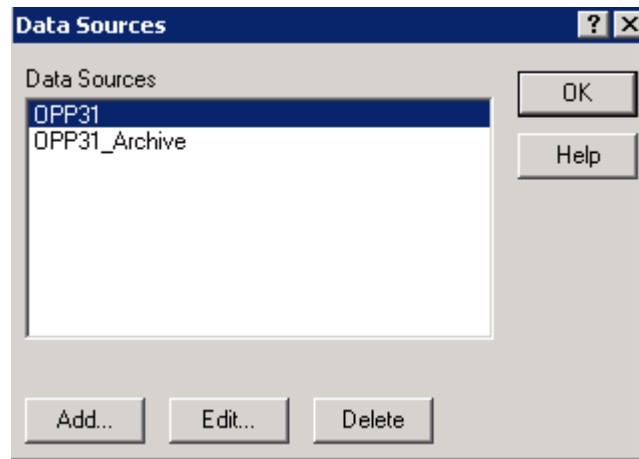

FIGURE C.5 - Open Plan Data Sources Dialog
5. Select OPP31 for the production environment or Select OPP31_Archive for the archiving environment and Click OK. (See Figure C.5)